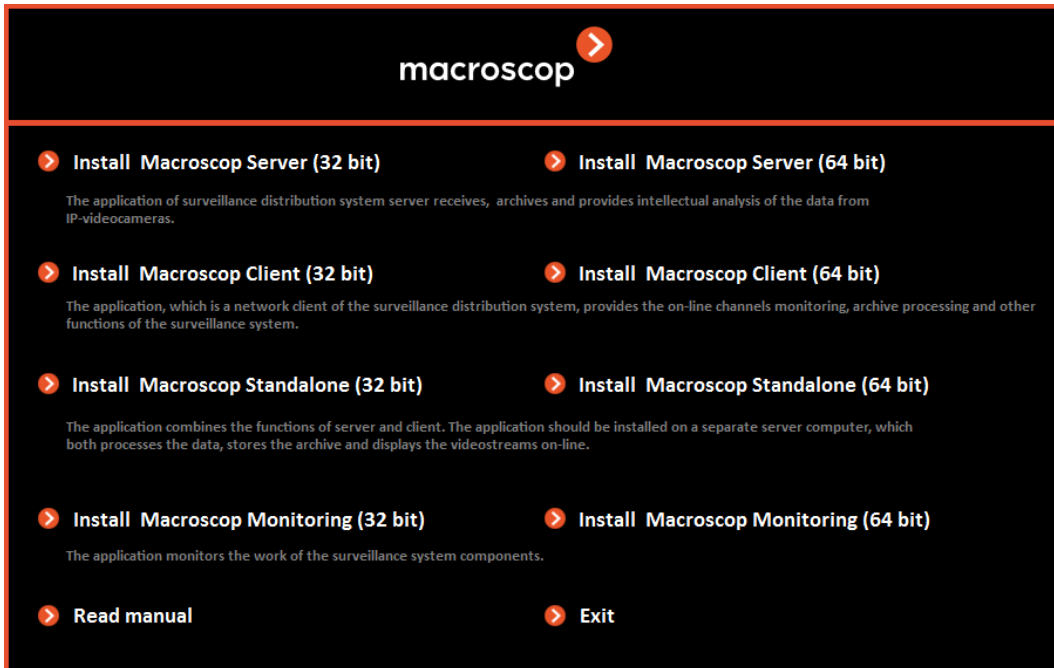

Fig. 1. Installer
The installer window opens (Fig. 1).
2. In the installer window (Fig. 1), click "Install Macroscop Server (32 bit)" if you have a 32-bit operating system and Macroscop license or "Install Macroscop Server (64 bit)" if you have a 64-bit operating system and Macroscop license.
2. In the installer menu (Fig. 1), click "Install Macroscop Standalone (32 bit)" if you have a 32-bit operating system and Macroscop license or "Install Macroscop Standalone (64 bit)" if you have a 64-bit operating system and Macroscop license.
1. In the installer menu (Fig. 1), click "Install Macroscop Client (32 bit)" if you have a 32-bit operating system or "Install Macroscop Client (64 bit)" if you have a 64-bit operating system.
1. In the installer menu (Fig. 1), click "Install Macroscop Monitoring (32 bit)" if you have a 32-bit operating system or "Install Macroscop Monitoring (64 bit)" if you have a 64-bit operating system.